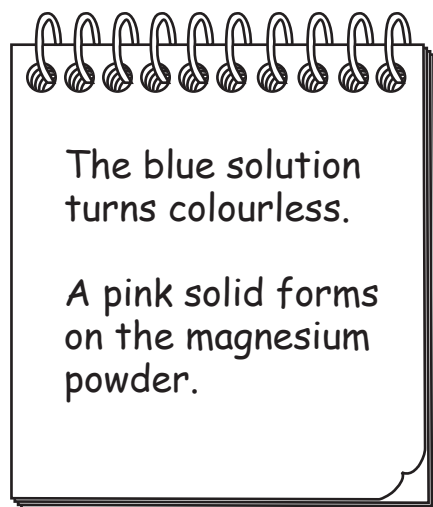

Fig. 1.2
- (iii) Fig. 1.2 shows the observations the student makes during the reaction of magnesium powder and aqueous copper(II) sulfate.